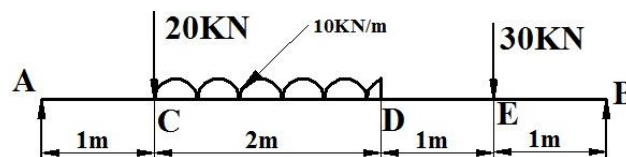

Figure 40
4. Determine the deflection at points C, D, & E in the beam shown in **Figure 40**. Take  $E=200 \times 10^6$  N/mm2 and  $I=60 \times 10^6$  mm4.